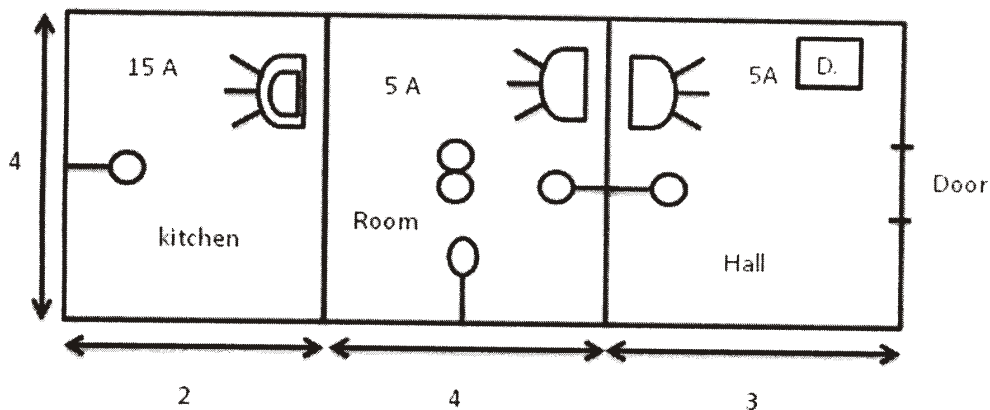

Fig. 1 : Plan of building
**Instructions :** (1) Answer *any five* questions.
(2) Each question carries **ten** marks.
(3) Answers should be comprehensive and the criterion for valuation is the content but not the length of the answer.
12. The plan of residential building is shown in Fig. 1 :